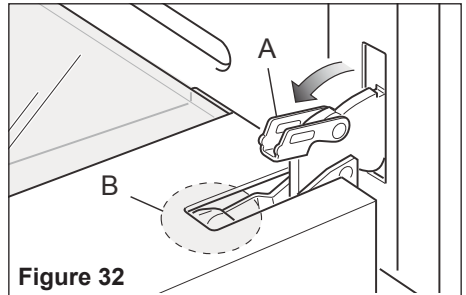

Figure 32
- Open the lever "A" completely on the left and right hinges (fig. 32).
- Gently close the door until left and right hinge levers "A" are hooked to part "B" of the door (figs. 32, 33).